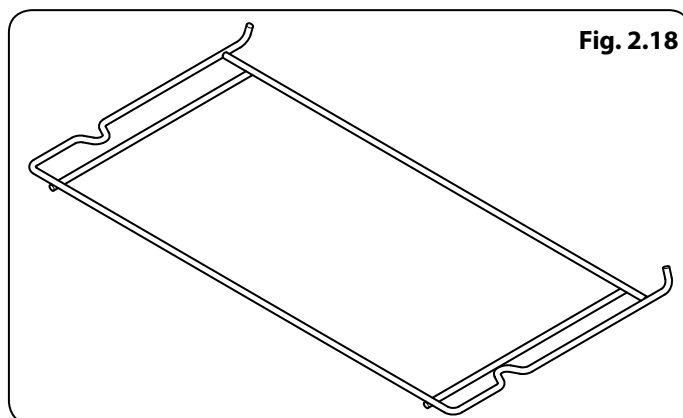

Fig. 2.18
- One broiler tray rack (**Fig. 2.18**)